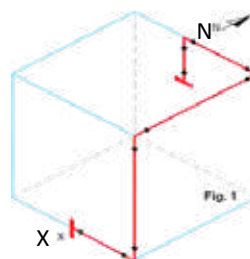

Fig. 1.2.11 Isometric view drawing representation in three planes
- Below are some examples of isometric drawings. (Fig. 1.2.11 & 1.2.12). The auxiliary lines in the shape of a cube, ensure better visualization of the piping / pipeline routing.
For pipeline which runs through three planes, has flanges at both ends. Routing starting point X (Fig. 1.2.11)